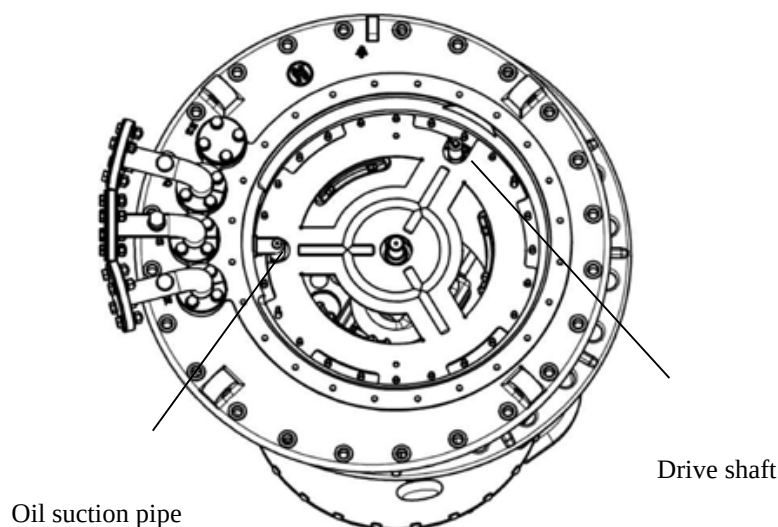
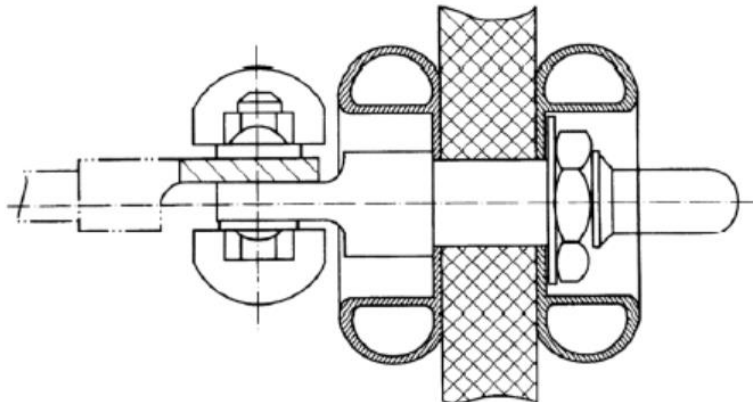

Figure 32 Install switch insert
Figure 35 Washer of shield cover
- 4) Lift the switch insert to be above the oil compartment, and slowly drop the insert to its final position. Make sure that the insert mounting plate in the compartment is in the correct position (switch insert's top plate has two gaps which is 120° away. These two gaps, one is aligned with the oil suction pipe and the other is aligned with the drive shaft used to install the position indicating disc). Fasten the support plate: 10 pieces of M8 nuts (13mm wrench with spring washer, torque 12 to 15 N.m.) (Figure 32).
After tightening it by the M10 connecting nuts which is provided with tap-changer (Figure 32). The washer of shield cover should be turned up 90° in two sides. (Figure 35)